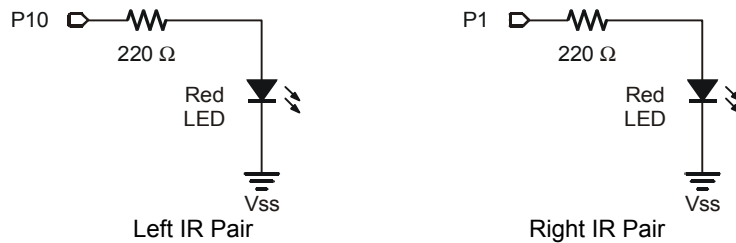
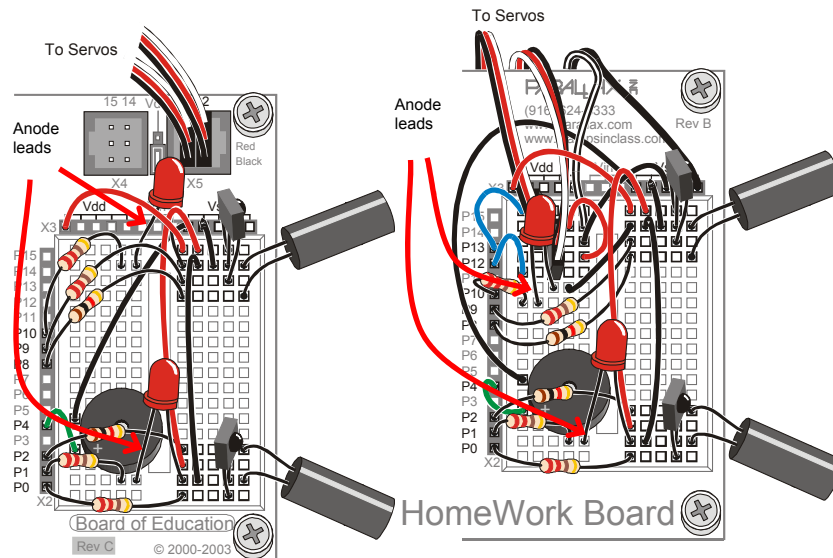

**Figure 7-6**
**Figure 7-7**
- (2) Resistors – 220  $\Omega$  (red-red-brown)
- ✓ Build the circuit shown in Figure 7-6 using Figure 7-7 as a reference.